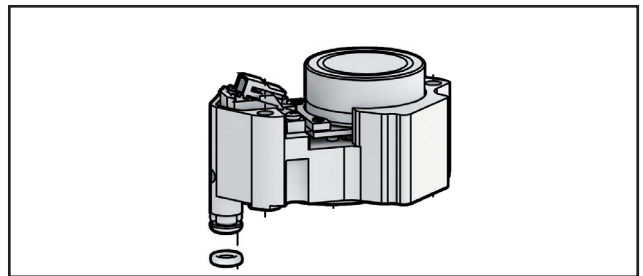

Fig. 78.
- Loosen the prestage cover screws and remove the prestage cover. (Fig. 78)
- Unplug the prestage wire connector from the prestage (Fig. 78)
- Loosen the screws holding the prestage in place. (Fig. 78)